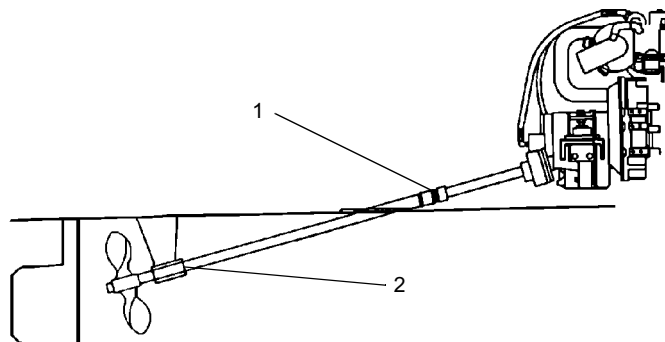

Figure 15: Propeller Shaft Support for a Flexibly Mounted Engine
A flexibly mounted engine “moves” on the engine mounts. Therefore, the shafting connected to the marine gear output flange must be free to move with the engine. Most boat installations use a flexible stuffing box (1) and a single strut bearing (2) to support the propeller shafting while allowing for freedom of movement in the shafting (see figure 15).